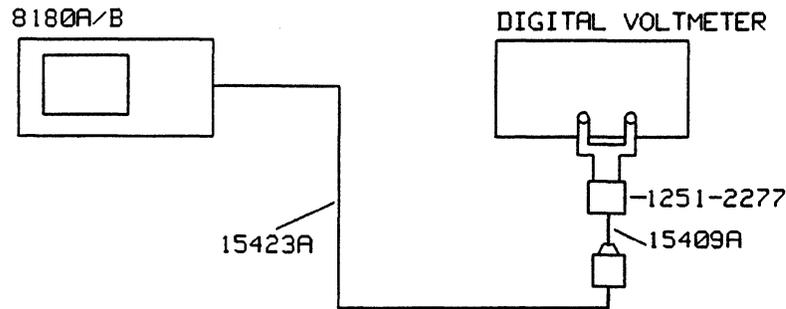

Figure 11-7. Test Setup for the Level Accuracy Test
6. Connect the equipment as shown in Figure 11-7 and press RUN.